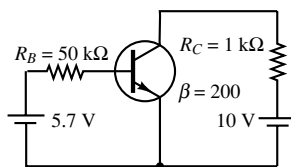

Figure P10.12
- 10.12** For the circuit given in Figure P10.12, verify that the transistor operates in the saturation region by computing the ratio of collector current to base current.